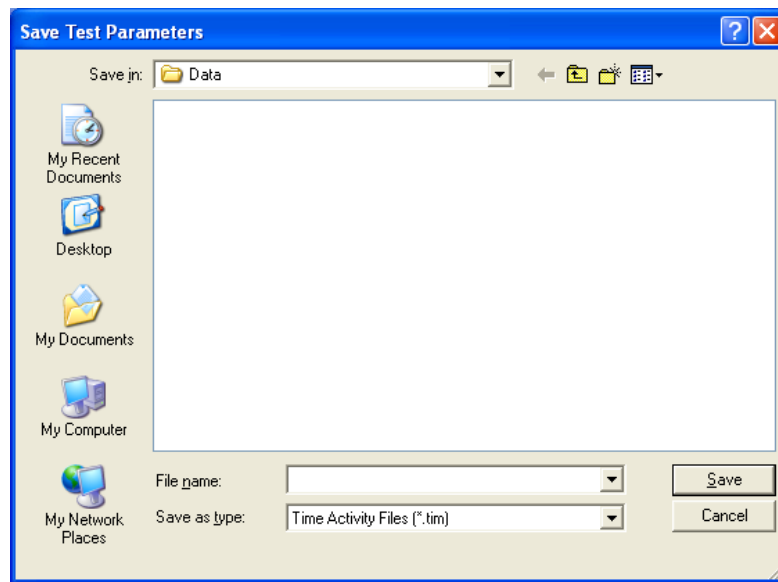

Figure 12-4
- vi. To save the settings on the current screen to a file, click the **Save to File** button or press *Alt+S*. The screen appears as shown in Figure 12-4.